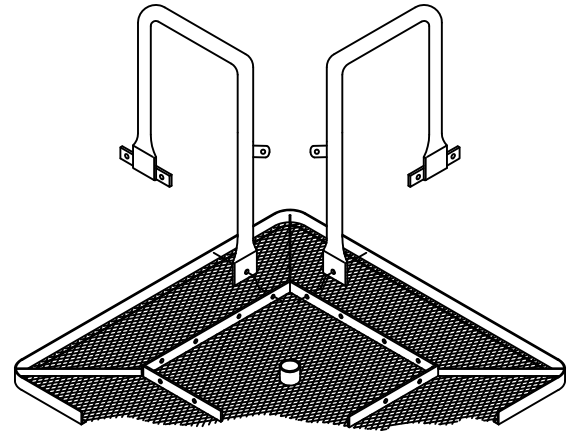

FIG. 1
Invert the (A-) top so its upside down on a flat surface. Attach a, E1 and E2, left and right leg to an outside corner of the top's center square mounting frame, see FIG. 1. Use one, per each leg, (H) and (N) using two (M) and one (Q) per (H). NOTE: The tabs on each leg should meet at each corner when installing the legs. Temporarily insert one (L), (N), (Q) and two (M) loosely into the tab holes of each leg. This allows the legs to secure and hold each other in place at each corner.